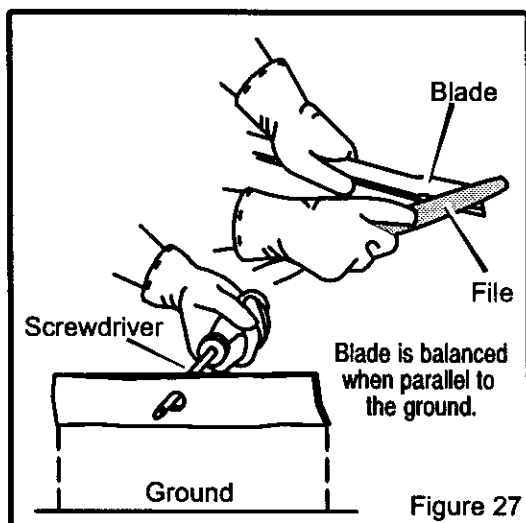

Figure 27
4. Sharpen the **blade** with a **file**. Make sure you keep the original beveled cutting edge (Figure 27).